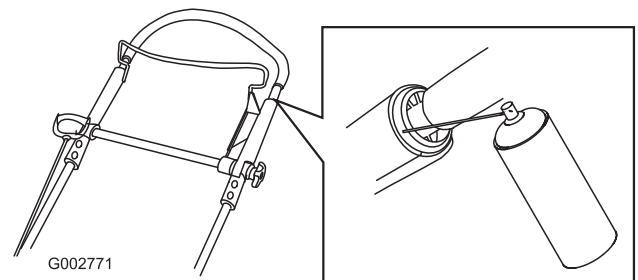

Figure 40
1. Spray the outer plastic end of the inner handle (Figure 40).